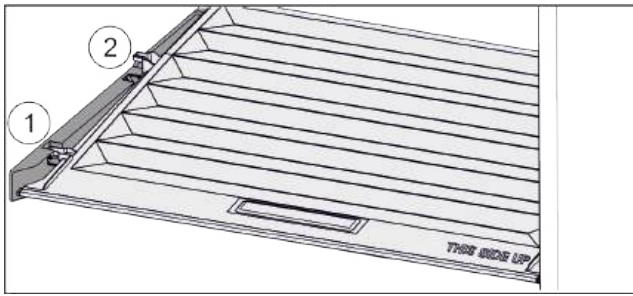

Fig. 122
- ▶ Pull the lid up at the front to the opening in the retaining parts Fig. 122 (1).
- ▶ Lift from the back and pull it up and out Fig. 122 (2).